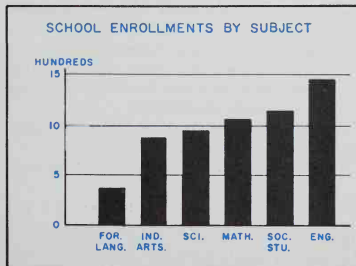
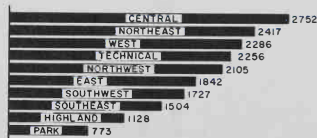

Fig. 13-1. A vertical bar graph.
Fig. 13-3. A horizontal bar graph.
Bar graphs are used in making comparisons, such as school enrollments, Fig. 13-1. The items to be compared are represented by "bars" which extend on a scale of values.
2. Decide on horizontal or vertical graph. If the number of items to be shown is large, it is advisable to use the horizontal, Fig. 13-3. Otherwise, use the vertical graph, Fig. 13-1.
- Figure size of rectangle into which the graph will fit. The number of bars, the space between, and the height, or scale, will need to be figured. The width of the bars and the space between them can be any reasonable width. Enough space should be provided to label each bar. The height or scale can be any reasonable distance. The height should extend to include the largest item in the graph. Show the scale in units, fives, tens, hundreds, etc., Fig. 13-1. Try to work out a rectangle of pleasing proportion.